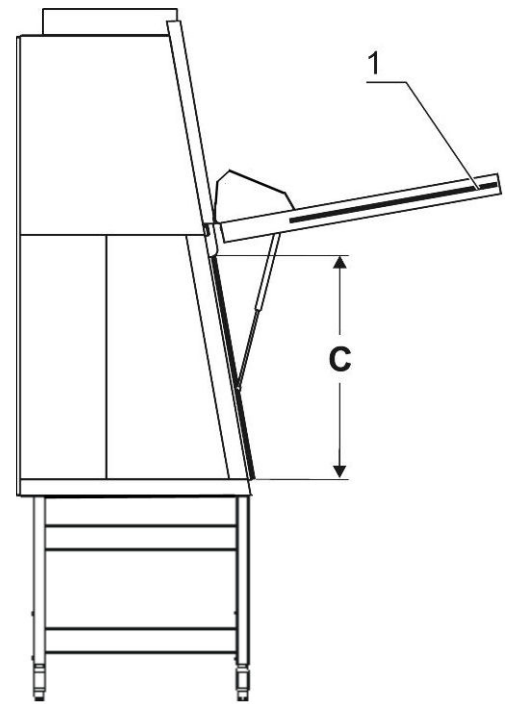

Fig. 6a
**Fig. 6a:** Manual opening of the front cover [2] allows access to the complete sample chamber width with an opening height **C**. It is generally needed for decontamination and introduction of larger accessories.